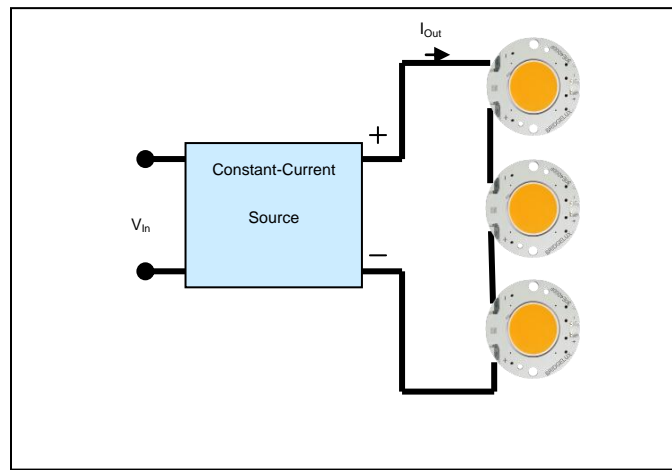

Figure 8: Multiple LED Arrays driven in series with a single constant current source
1. When using a single LED driver with a single constant current output channel, connect the LED Arrays in series to complete the electrical circuit (Figure 8). This arrangement ensures that all LED Arrays will be operated at the same current.